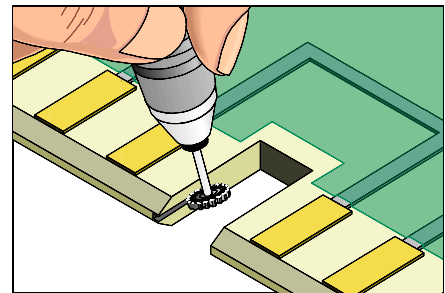

Figure 2: Cut a groove into both sides of the key slot using the Micro-Drill System and carbide saw.
4. Install carbide saw into the Micro-Drill System. Set the speed to maximum and machine a groove in the edge of the PC board where the new base material will be installed. The groove must be centered in the edge to ensure that the new piece will fit properly. The groove width should be approx. 1/3 of the PC board thickness. The groove depth should be approx. double the groove width. (See Figure 2).